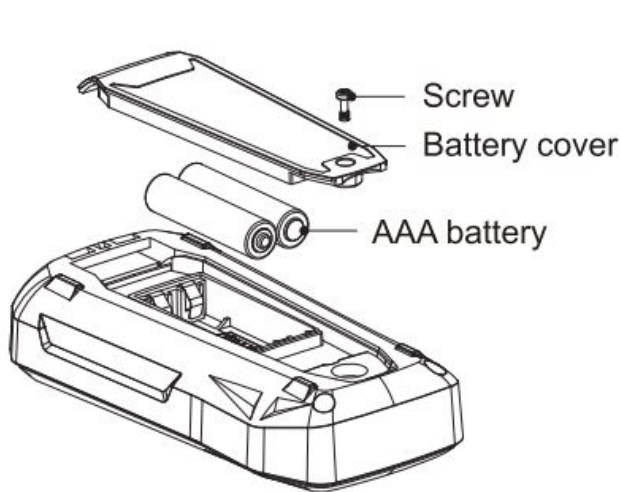
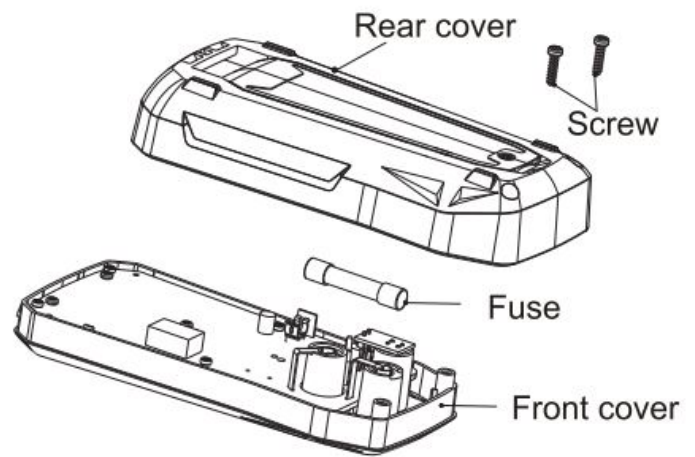

Figure 4a
Figure 4b
Maintenance and repair (Figure 4a}
3. Replace batteries or fuse (Figure 4a and Figure 4b). The meter uses 2 pieces of AAA 1.5 V batteries, please install or replace batteries according to the sequence below: